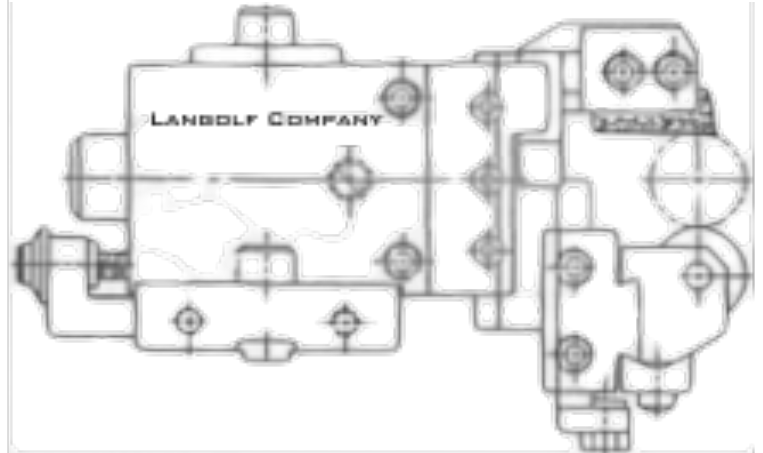

Figure 26
2. Cutting edge of the tool in front of the centerline of the roller (Figure 26).